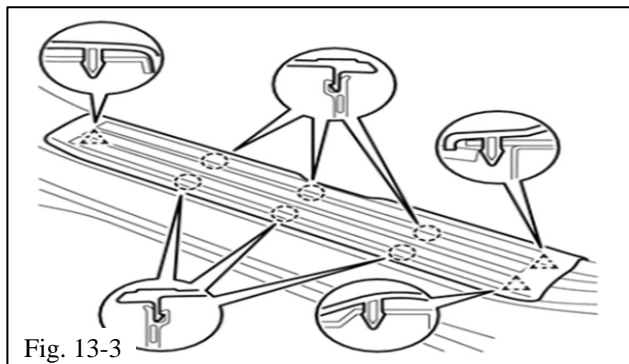

Fig. 13-3
- (c) Reinstall the RH front door scuff plate (Fig. 13-3).